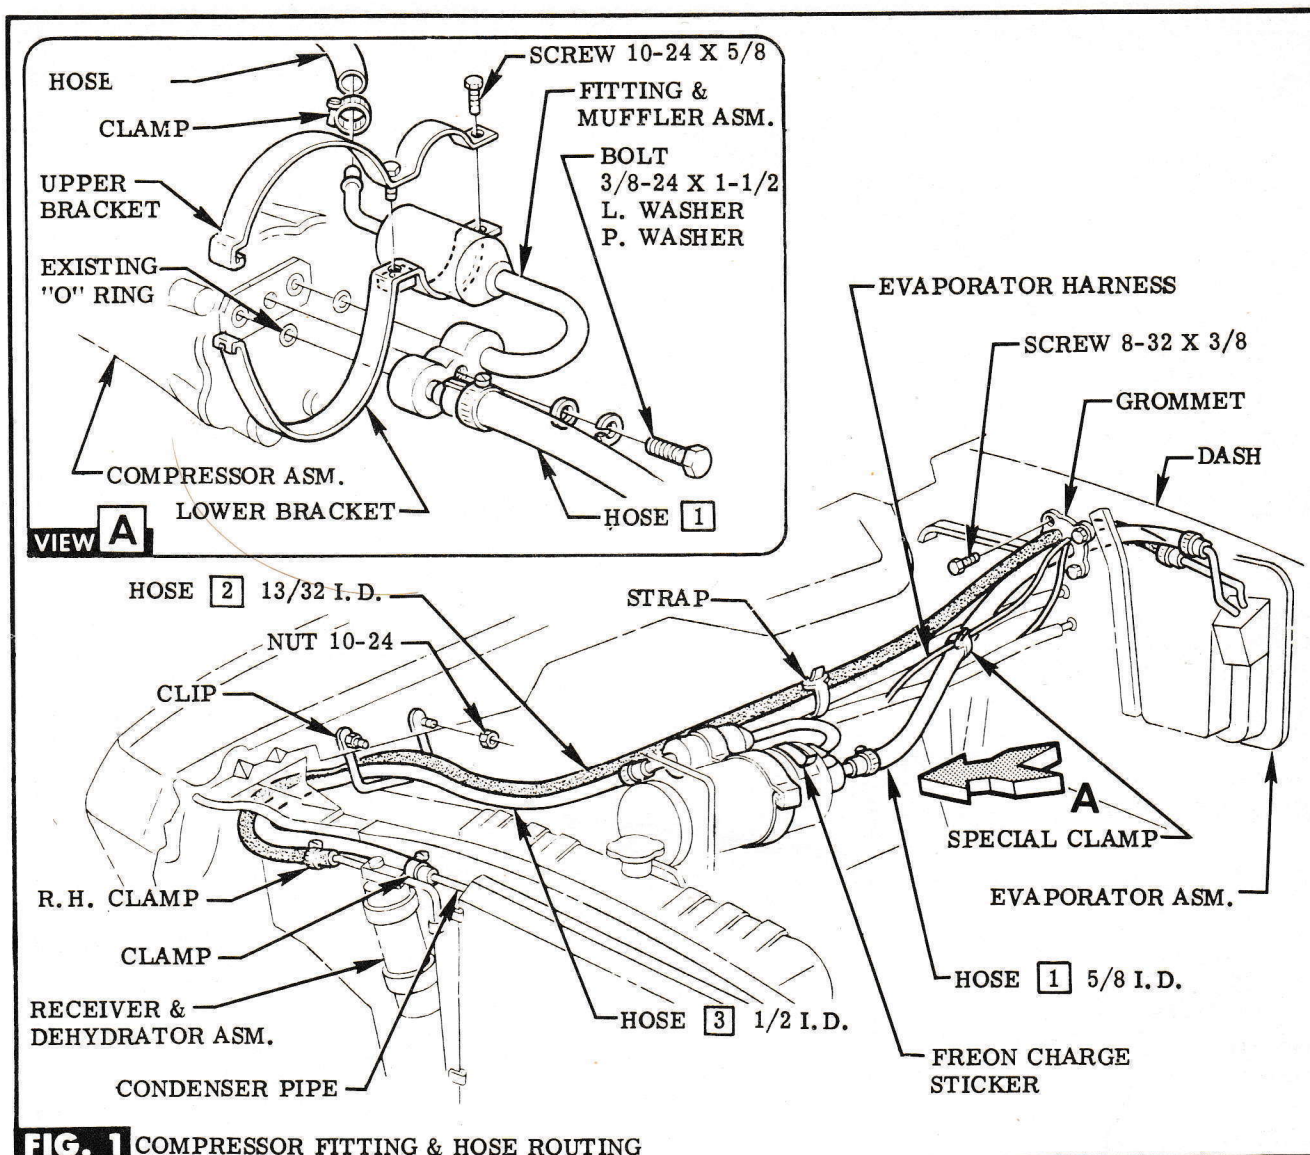

FIG. 1 COMPRESSOR FITTING & HOSE ROUTING
STEP 3 PULL EVAPORATOR HARNESS WIRES & HOSES [1] & [2] THRU PREVIOUSLY CUT HOLE IN DASH & INSERT THRU GROMMET. ATTACH GROMMET WITH SCREWS AT PREVIOUSLY DRILLED HOLES IN DASH. SEE FIG. 1.